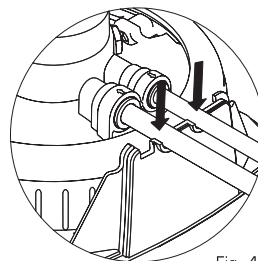

Fig. 46
Top shroud not seated.	Reseat Top Shroud, p. 10, Fig. 46.
6. Make sure the tubes are in the notches on the back of the Base (Fig. 46).